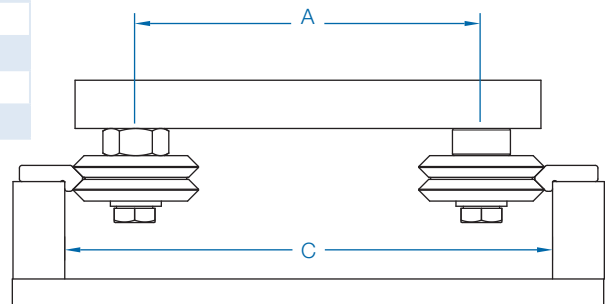

Figure 2 Outboard Mounting
- Outboard Mounting (See Figure 2): $A = C - X$